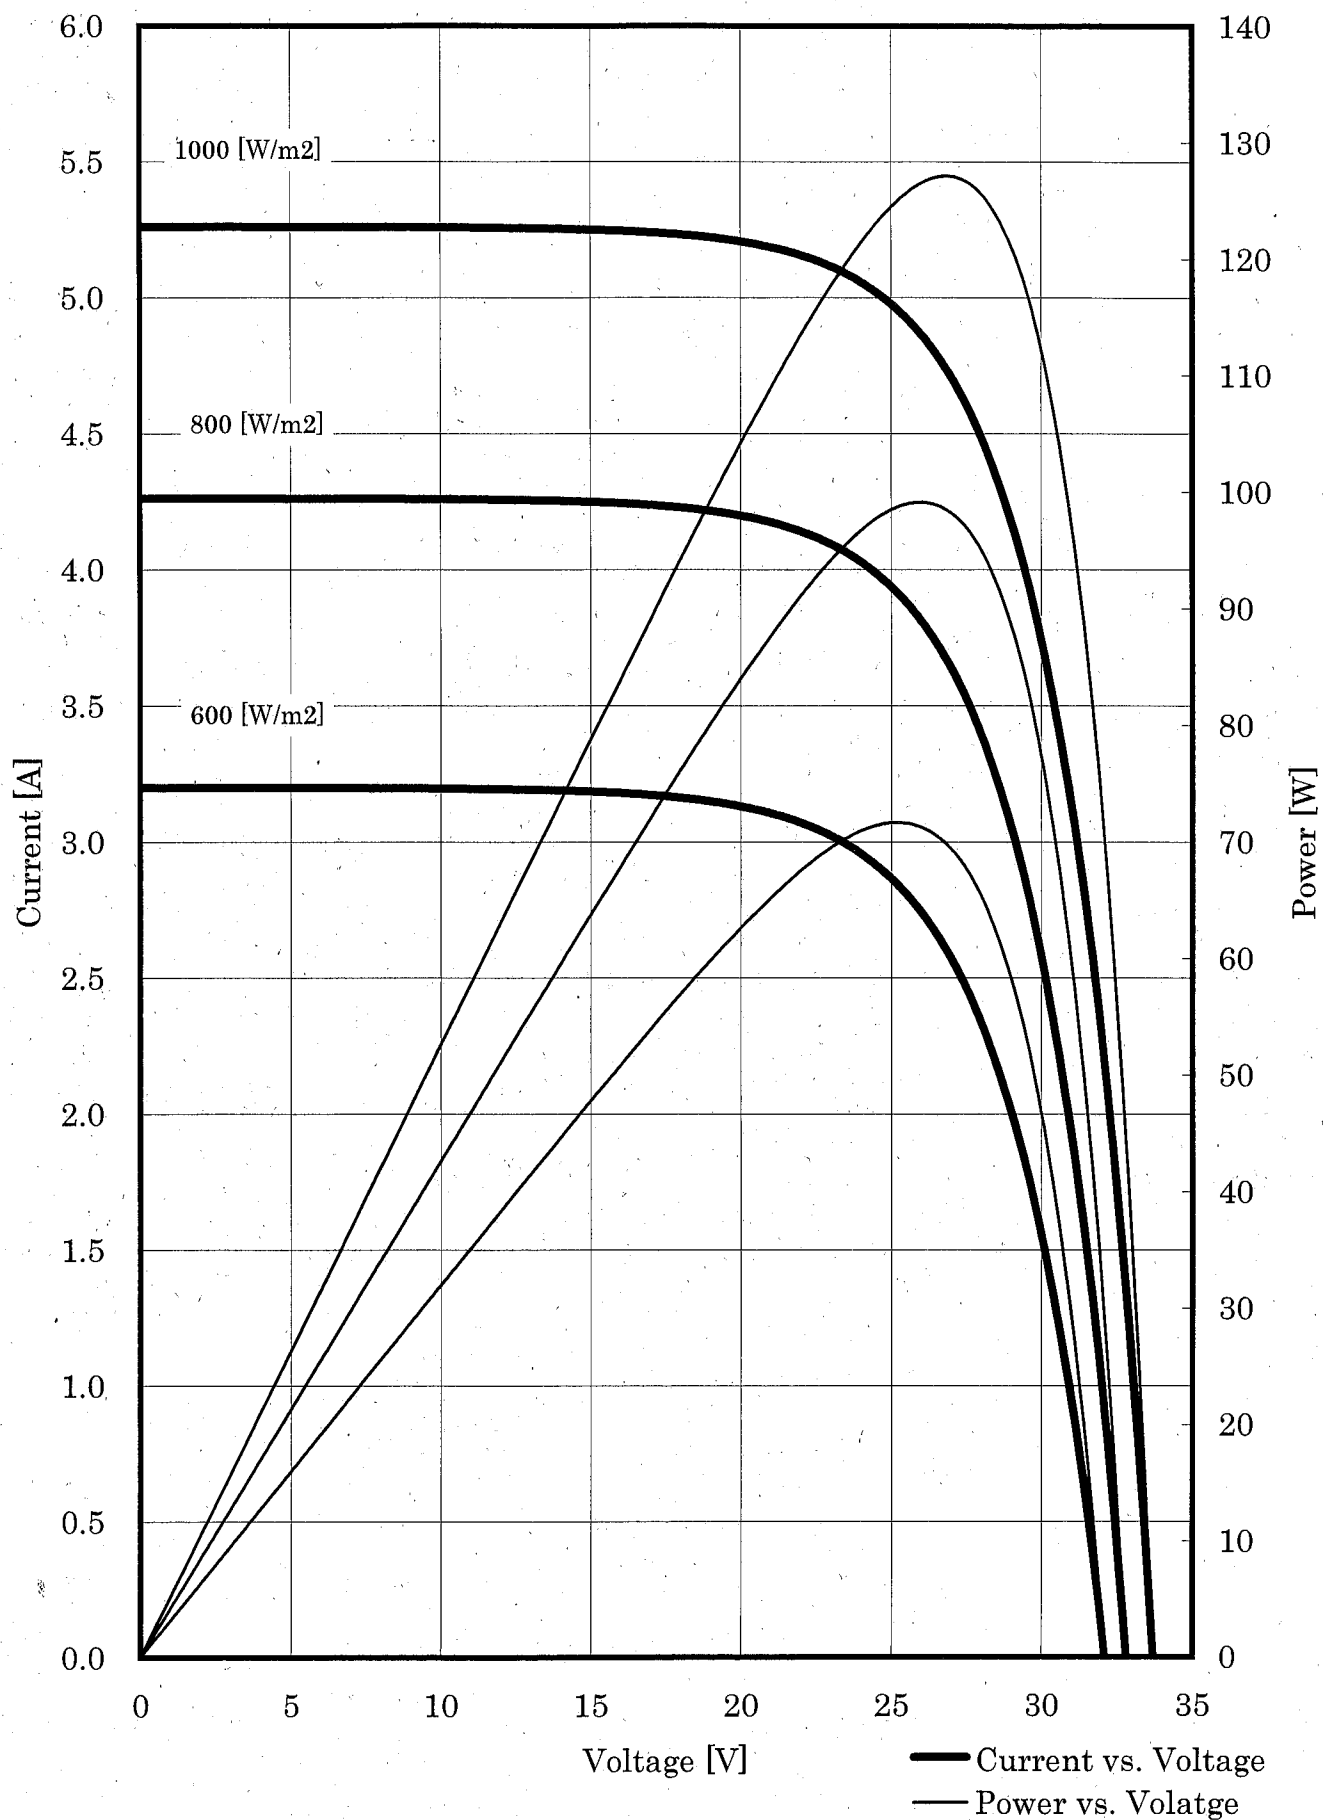

Fig. I -2 Current , Power , vs. Voltage Characteristics
- (2) Fig. I-2: Characteristics regarding Current and Power versus Voltage per Irradiance